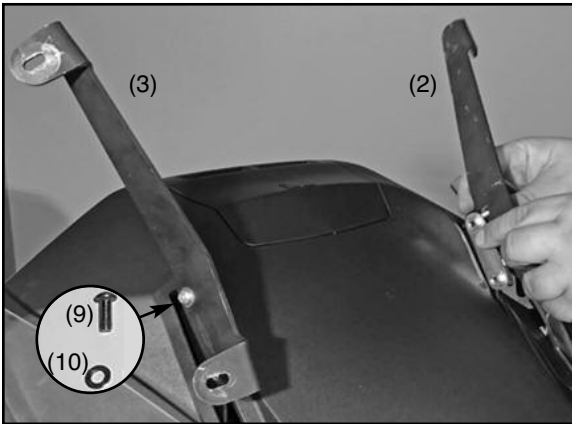

Fig 8
11. Use the Screw (9) and Washer (10) to mount the Mount Arm (2 and 3) to the motorcycle. Tighten screws firmly. **(5mm Hex Wrench) Fig 8**